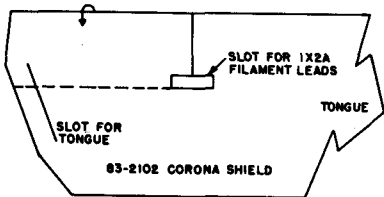

Fig. 41 — Zenith
**Arcing between 1X2A and adjacent components (see Fig. 41).**